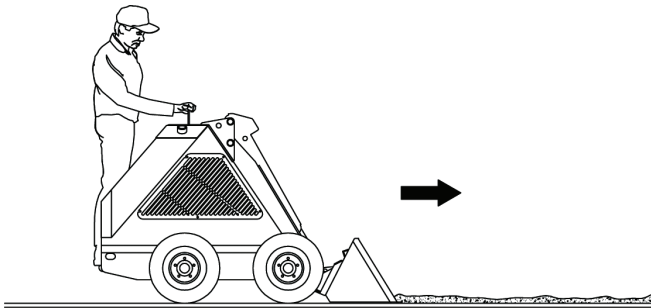

Figure 18
3. Another method of leveling is to travel forward with bucket down and level, full of material and pushing excess into low areas. Depth is controlled by tilting the bucket slightly up or down, as in Figure 18.